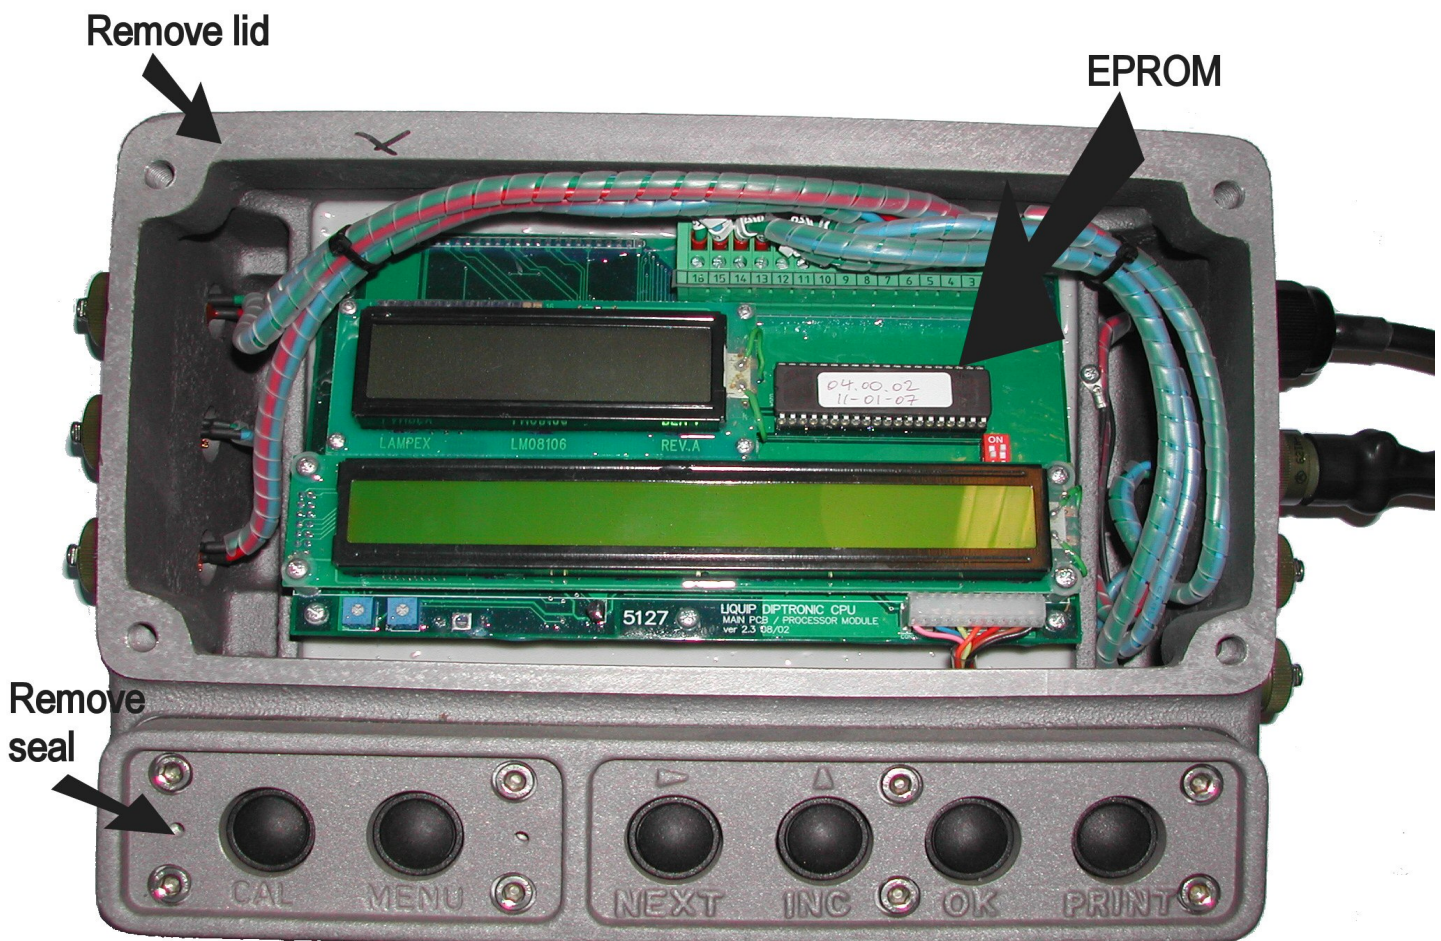

Figure 1— Remove sealed for calibration label & remove CPU lid to expose EPROM.
6. Remove calibration seal from front panel of CPU. Refer figure 1.
8. Remove CPU front cover to expose EPROM. Refer figure 1.